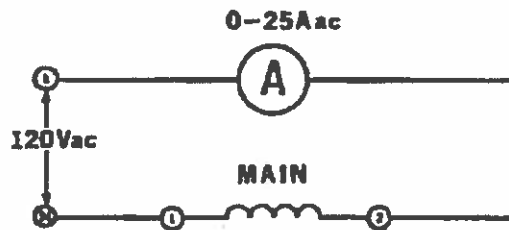

Figure 33-1.
1. Using your Capacitor-Start Motor, Power Supply and AC Ammeter, connect the circuit shown in Figure 33-1.